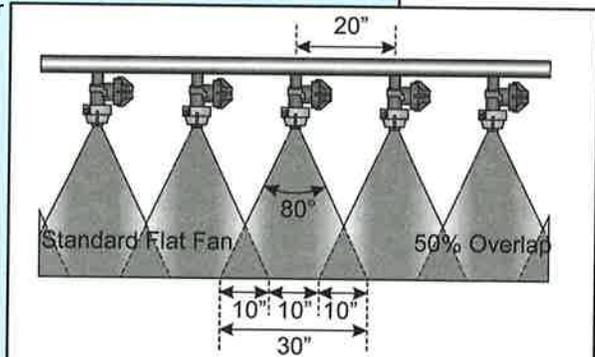

Figure 10-6. To spray uniformly with flat fan nozzles, adjust so that 30 to 50 percent of the spray pattern overlaps.
- **Flat fan nozzles** are well suited for herbicide applications. Standard flat fan tips are designed for broadcast spraying with a spray boom. They are positioned so that the released spray overlaps 30 to 50 percent for even product distribution across the boom (Figure 10-6). For band spraying in rows, even flat fan nozzles are available. They may also be used with a backpack (single nozzle) sprayer.
**Nozzle Spacing**—The distance between nozzle tips from center to center is the nozzle spacing. Typical range of spacings for application to turfgrass is from 10 to 20 inches (Figures 10-6 and 10-8).